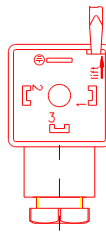

Fig. 7
Press out the insert (8) of the cable socket by means of a screw driver or a similar tool (fig. 7).